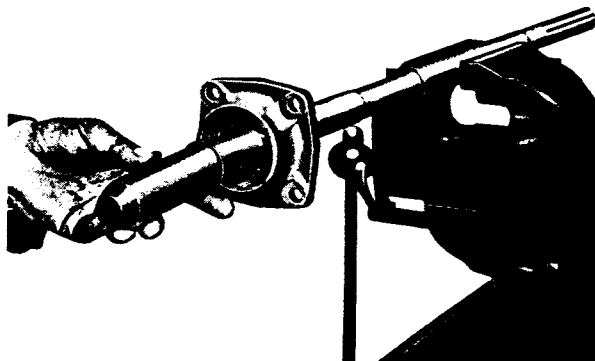

FIG. 5
6. Fit end cover assembly on shaft, locating inner journal of bearing (1) on collar (7). The outer section of service tool FT 25 can be located on collar (8) for the purpose of tapping into position.
7. To locate collar (8), place the inner portion of service tool FT25 over shaft splines, and on it mount circlip (9). Using the outer portion of the tool, push the circlip into position, as shown in Fig. 5.
8. Replace cap (3).